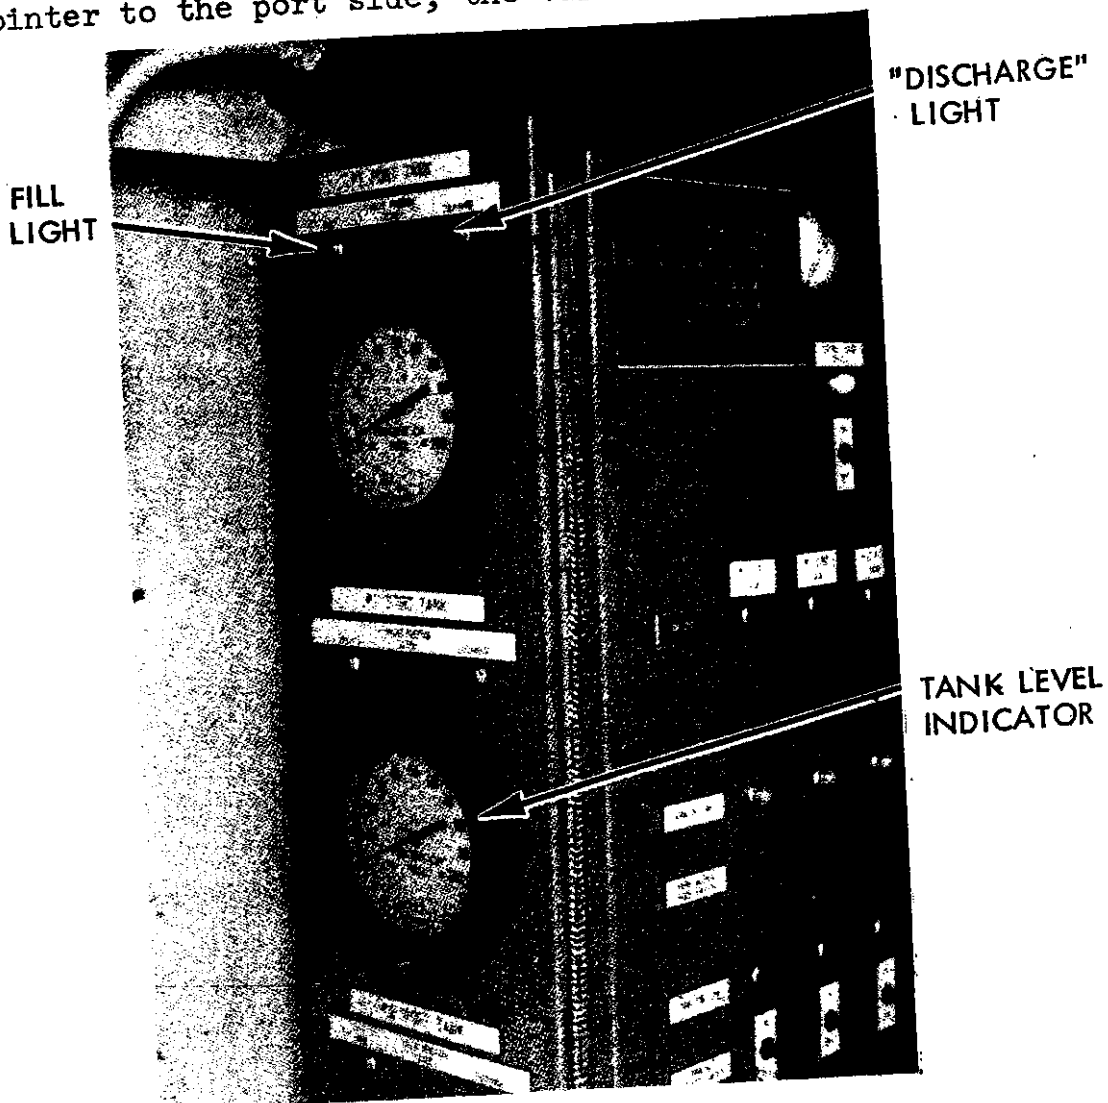

FIGURE 2-8
2.3.2.2 Valve Position Indicator. Valve position is indicated in two ways, electrically and mechanically. The electrical indication way is provided by a system of lights (120v AC) located beside each tank level indicator (see Figure 2-8). In the FILL position an amber light shows and in the DISCHARGE position a green light shows. When the valve is rotating or when the valve is in the CLOSED position, lights do not show. In the absence of AC power, the valve position is indicated by means of a pointer on the valve stem (i.e., below the operator near the valve body). In the FILL position the pointer is forward and in the DISCHARGE position the pointer is aft. With the pointer to the port side, the valve is closed.
2.4.1.2 Pressure Measurement. Flow from the rotometer leads into the indicating tube which ends at the tank bottom. At the tube ending the flow vents to the free surface. The pressure at the roto-meter is nearly equal to the pressure at the end of the indicating tube and, as noted earlier, is directly proportional to the tank level (i.e., the height of fluid above the tube ending). Therefore, the pressure gauge (see Figures 2-8 and 2-10) attached to the indicating line provides a remote and visual indication of the tank level. However, rather than reading in units of pressure (e.g., inches of H2O) the gauge scale is calibrated to the more convenient PERCENT FULL scale.